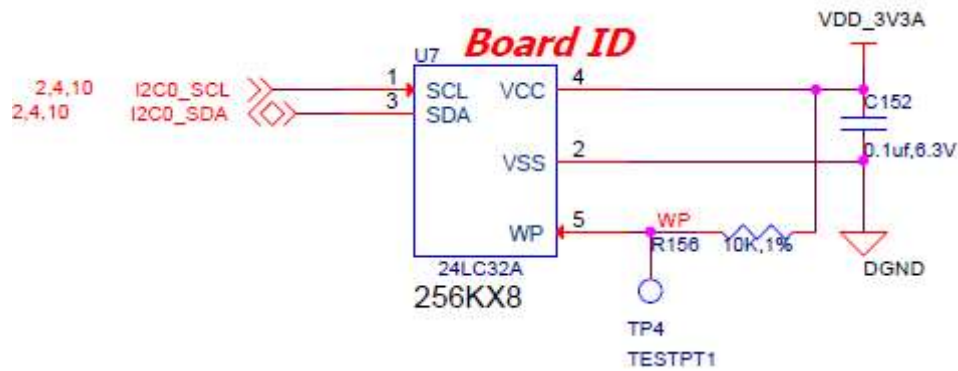

Figure 35. EEPROM Design Rev A5
**Figure 35** shows the new design on the EEPROM interface.